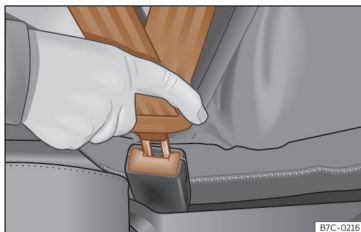

Fig. 22 Insert the latch plate of the seat belt into the buckle.
- Insert the buckle plate in the buckle of the correct seat >>> **Fig. 22.**